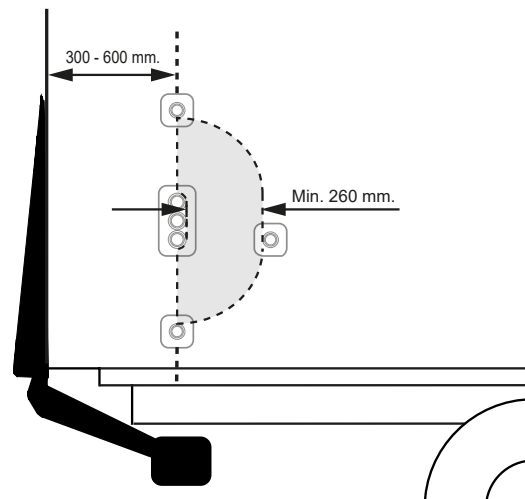

Figure 46. Installing controller CD 1 with two-handed grip
2. The distance between the vehicle's rear edge and the centre of the controllers must be 300-600 mm. The distance between the controllers must be at least 260 mm. See Figure 46.